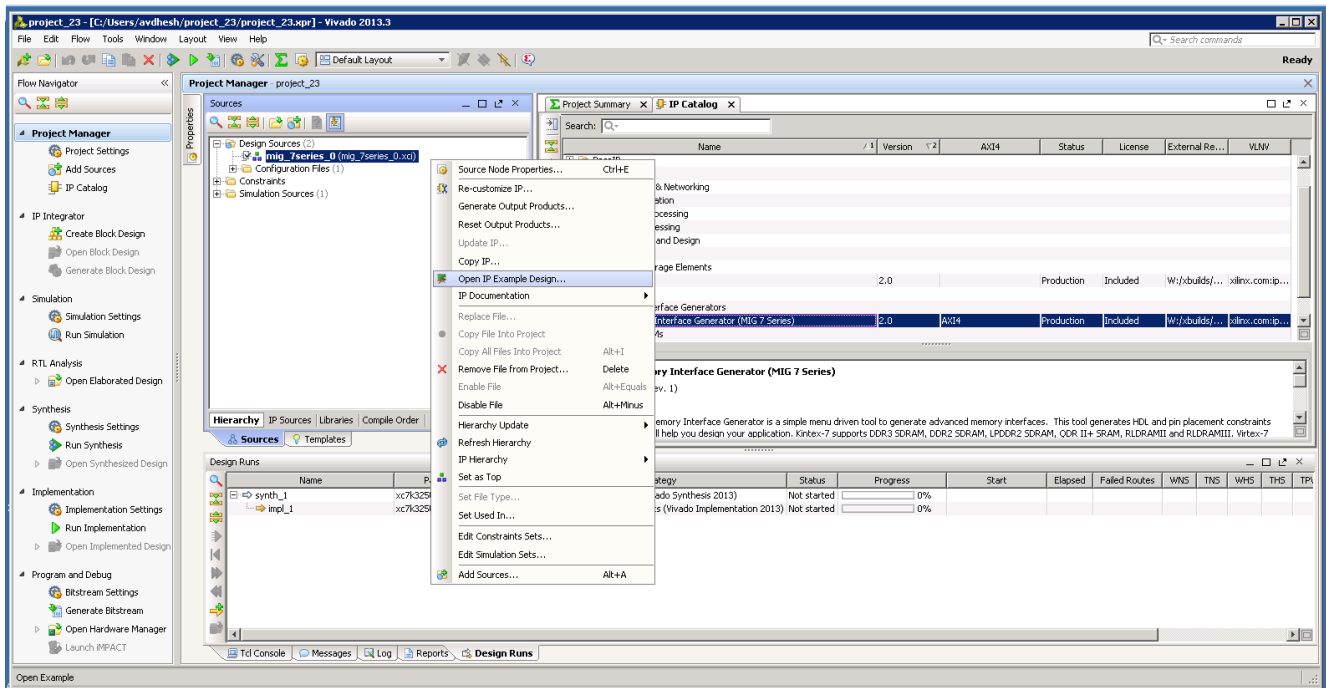

Figure 4-34: Open IP Example Design
9. The Vivado Design Suite supports **Open IP Example Design** flow. To create the example design using this flow right-click the IP in the **Source Window**, as shown in Figure 4-34 and select.